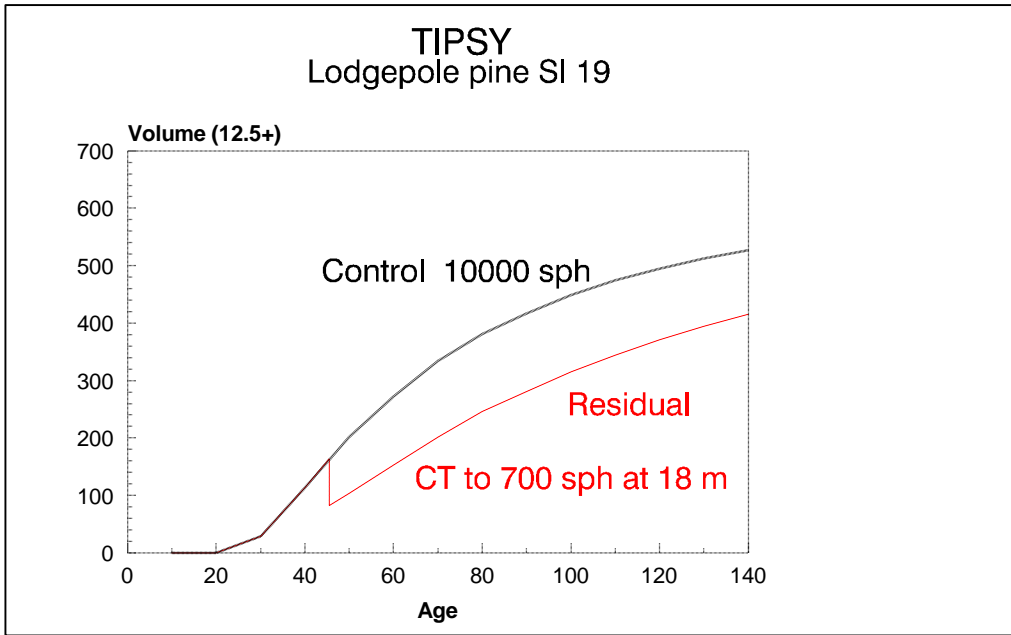

Figure 9. Commercial Thinning
- Commercial Thinning for Douglas-fir and lodgepole pine (Figures 9 and 10)